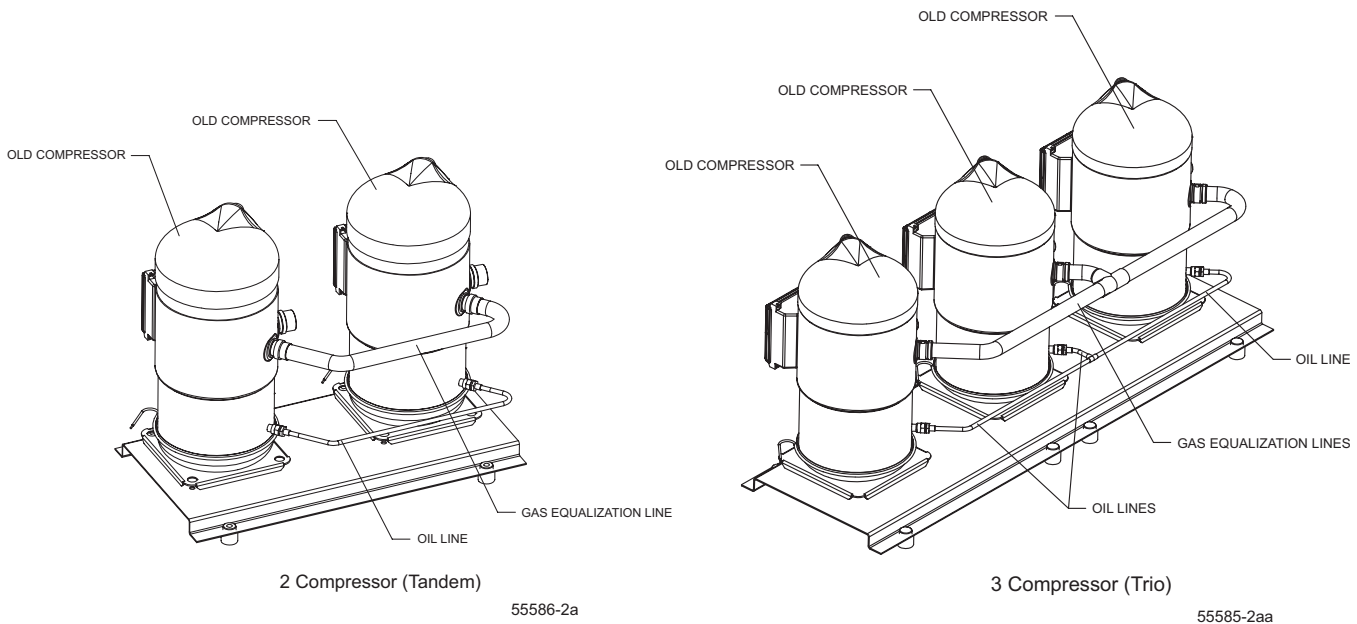

FIGURE 4 – OIL AND PRESSURE EQUALIZATION LINE REMOVAL
4. Cut the oil and gas equalization lines 2” from the end of the compressor connections. See FIGURE 4 on the following page. Take special care not to spill oil when the lines are cut. ***Oil will run out of the compressors and lines. Be sure to take steps to catch it.***